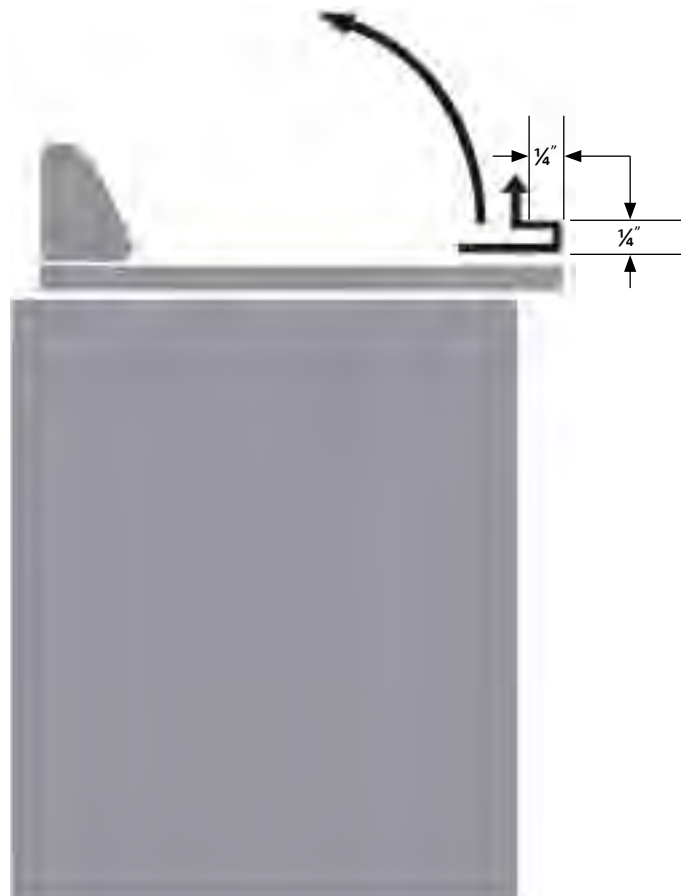

Figure 3
7. Raise the top about 1/4". Then, while still keeping it lifted, push the top back about 1/4" (see Figure 3).